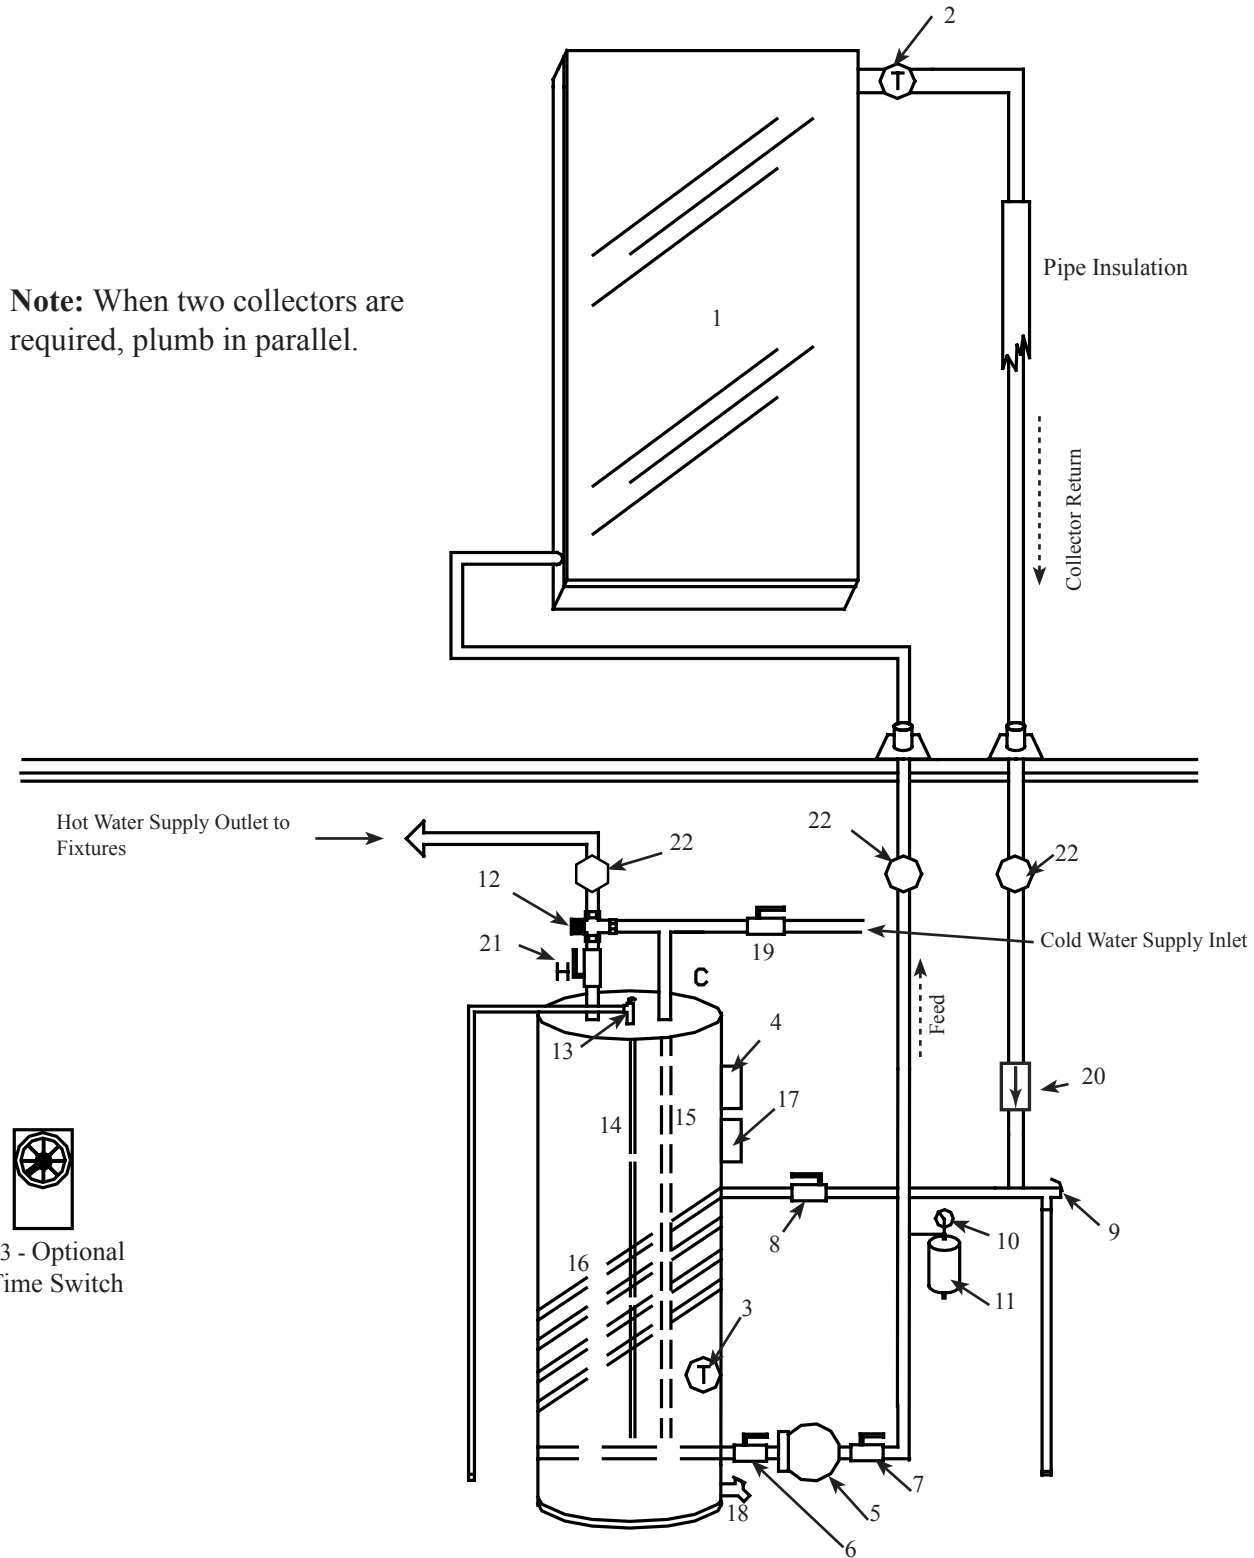

Figure 16
- In two tank systems the conventional electric water heater will be wired for electrical back-up. The solar tank will serve solely as a storage tank and not be wired. See Figures 16, 17, 18 and 19 for the location of the specific components numbered below.